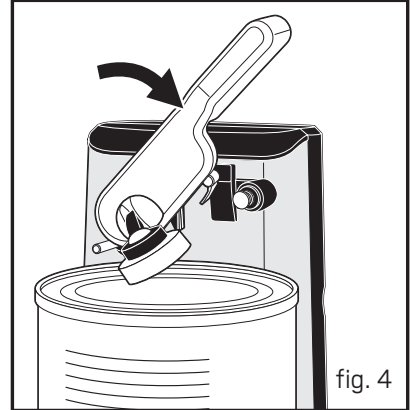

fig. 4
6. Press the piercing lever all the way down. The motor will begin turning can and cutting lid (it is not necessary to hold the piercing lever down during the cutting action). It may be necessary to hold the bottom of some large, heavy cans during the cutting action. See fig. 4.